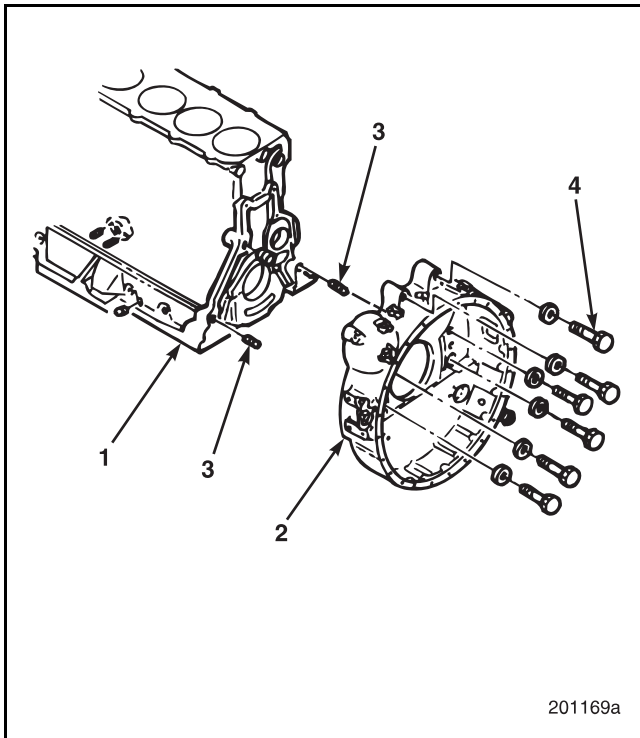

Figure 6-27 — Flywheel Housing Installation
3. Insert the two dowel pins in the cylinder block if they were removed. Refer to Figure 6-27.